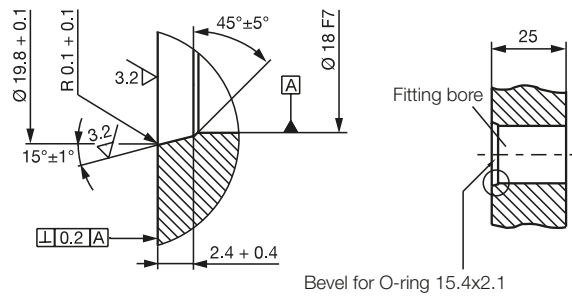

Fig. 4-4: Fitting bore for installing the BTL with O-ring
Fitting bore: The mounting surface of the BTL must make full contact with the supporting surface. A suitable O-ring must completely seal the bore, i.e. the countersink for the O-ring must be produced according to Fig. 4-4.
The depth of the mounting hole must be at least 25 mm (see Fig. 4-4).
- ▶ The mounting surface of the BTL must make full contact with the supporting surface. A suitable O-ring must completely seal the bore, i.e. the countersink for the O-ring must be produced according to Fig. 4-4.